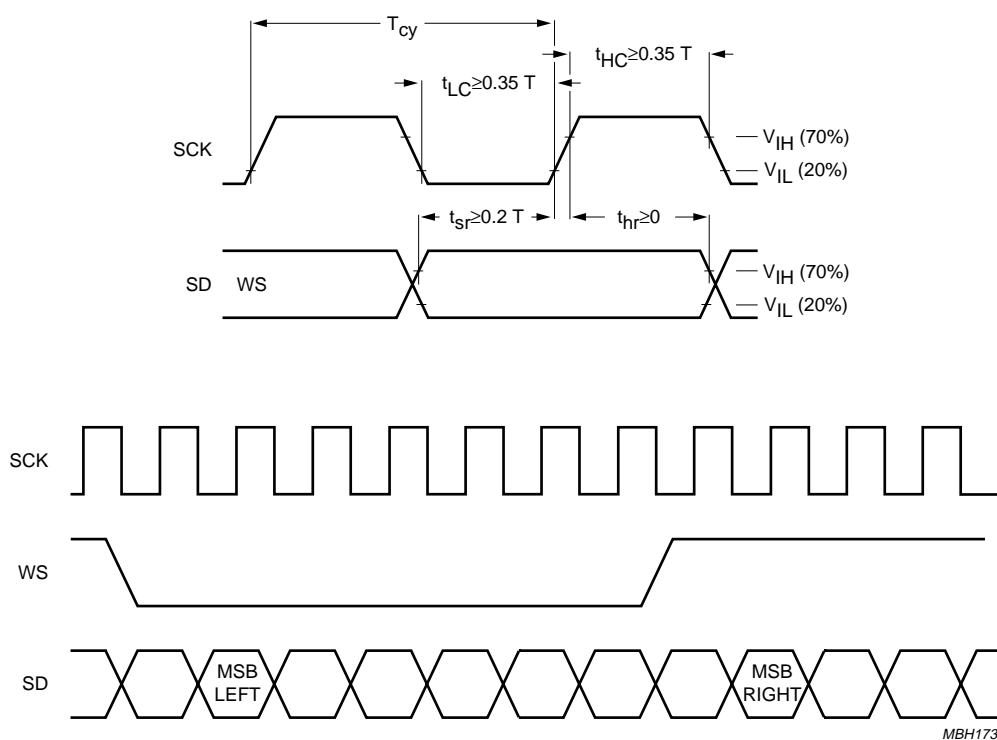

Fig.5 I2S-bus timing and format.
Figure 5 shows an excerpt of the Philips I2S-bus specification interface report regarding the general timing and format of I2S-bus. Word Select (WS) logic 0 means left channel word, logic 1 means right channel word.